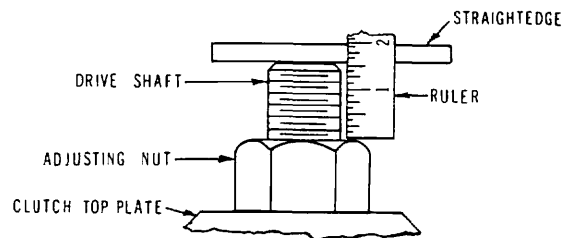

FIG. 24 - MEASURING PROTRUSION OF DRIVE SHAFT PAST ADJUSTING NUT
13. Unless special instructions are provided by the factory, adjust the pump shaft lateral, as follows: See Fig. 24 and 25. Screw the adjusting nut onto the drive shaft (left hand thread for all adjusting nuts except the 3/4" nut which is right hand thread) until it seats on the clutch. Continue tightening the nut (lifting the shaft) until the impellers are free from the bowl. This is the point at which the shaft can be rotated with much less effort than was required before. On most settings, the shaft should rotate free by hand; however, on very deep
settings with large shafting, it may be necessary to use a wrench to rotate the shaft. Measure the protrusion of the drive shaft past the adjusting nut as shown in Fig. 24. Continue tightening the adjusting nut (raising the shaft), counting the number of complete turns, of the adjusting nut until the impellers come in contact with the top of the bowl. This is the point at which the shaft no longer turns freely. **CAUTION: DO NOT CONTINUE TIGHTENING THE ADJUSTING NUT PAST THIS POINT. FURTHER TIGHTENING WILL RESULT IN THE IMPELLERS BEING PULLED FREE FROM THE PUMP SHAFT.** Measure the